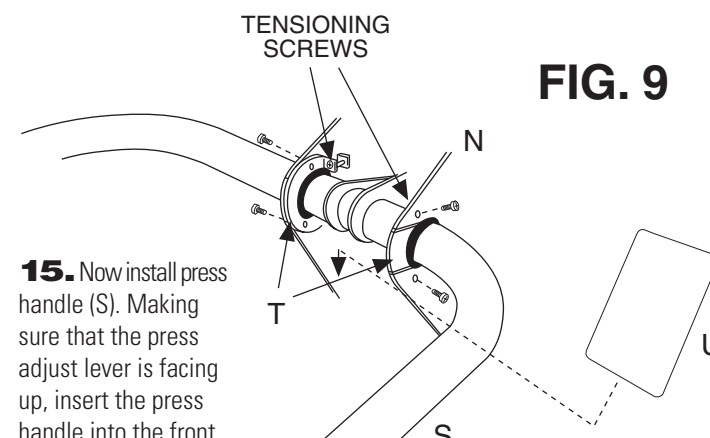

FIG. 9
15. Now install press handle (S). Making sure that the press adjust lever is facing up, insert the press handle into the front of the press housing (N) such that the pin in the back of the handle engages one of the notches with a bracket from the press handle (S) on each side. **FIG. 9** A nylon bushing should be positioned (slot towards the rear) to engage each side of the press housing. Note: the press handle (S) will be on center relative to the press housing (N), even though the brackets are off center inside the press housing. Secure each bushing with a bushing cap (T). Install the screws in the sides (1/4-20 x 1/2 pan head phillips, Qty: 4) and the tensioning screws (1/4-20 x 1-1/4 oval head, Qty: 2). Tighten the 4 side screws finger tight. Now tighten the tensioning screws until the slop is taken up. Do not over tighten. Once the slop is removed from the pivot, but the joint still rotates easily, tighten the 4 cross screws. Check the adjustment lever's operation at this point. When the lever is operated in either direction, the pin should retract fully, allowing the press handle to rotate. When the lever is released, the pin should lock the press handle by snapping all the way into the next notch. Adjust with phillips screwdriver if necessary. When correctly adjusted, the latch pin will be forced by the spring all the way against the far end of the slot it travels in. The adjustment lever will pull it almost, but not all the way, to the other end of the slot. **It is very important** that it be adjusted such that it goes all the way to the end of the slot with the pressure of the spring. Now install the plastic cover (U). With the textured side out, insert the lower end into the front of the press housing, curve it back and insert the other end up into the press housing. **FIG. 9**